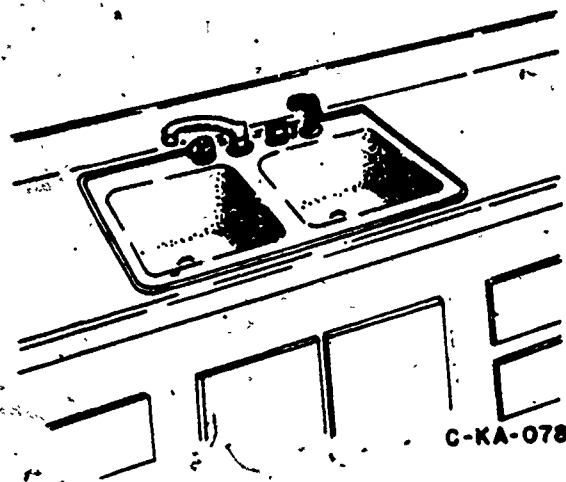

Figure 5-18. Counter-mounted sink.
**Kitchen Sinks.** Kitchen sinks are manufactured in a number of different patterns to be used for specific purposes. The type most frequently encountered is the sink shown in figure 5-18. It is made of either enameled steel, enameled-cast iron, or stainless steel and is available in a number of different patterns and sizes. It may have either a single or a double bowl.